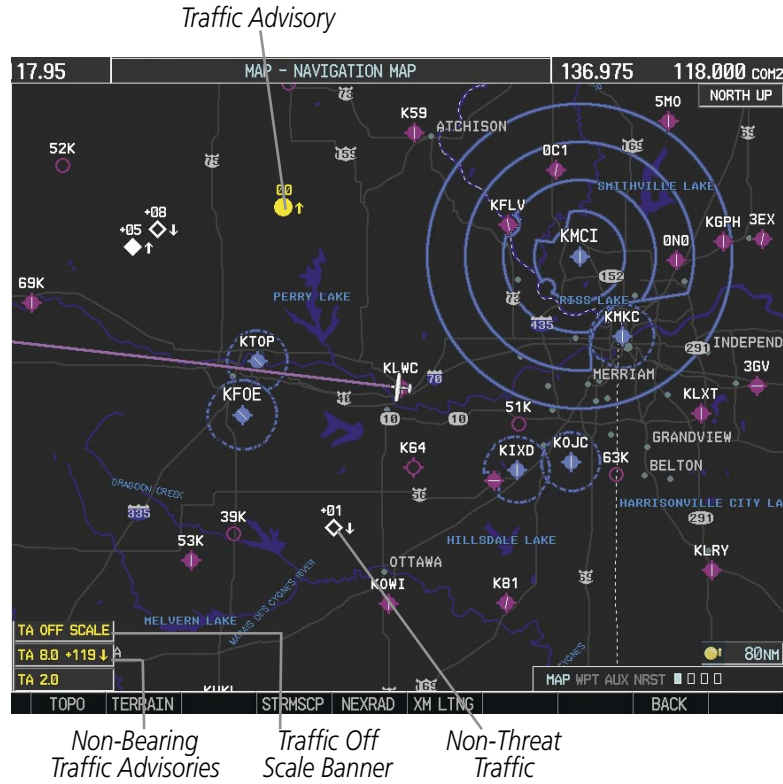

Figure 6-61 TAS Traffic on Navigation Map
- 2) Press the **TRAFFIC** Softkey. Traffic now displays on the map (as shown in Figure 6-61).